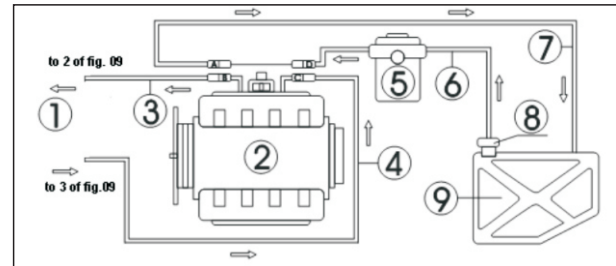

Fig.06
The hose line connection of the engine with return hose is shown as in Fig.06.
- Disconnect the connections of fuel supply hoses (C、 D) and fuel return hoses (A、 B) of the engine fuel system (wrap the connector with towel when disconnecting the connector). Choose proper connectors and connect them to the B end and C end separately, and then connect the other ends to corresponding return hose and outlet hose of the unit. See Fig.06.